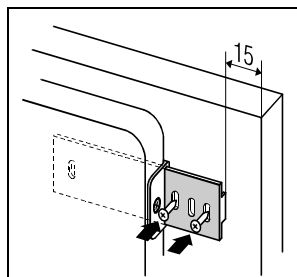

Fig. 3
- Insert the slides into the guides and fix them on the kitchen unit door some 15 mm from the edge, using the A 4 x 12 screws (Fig. 3).